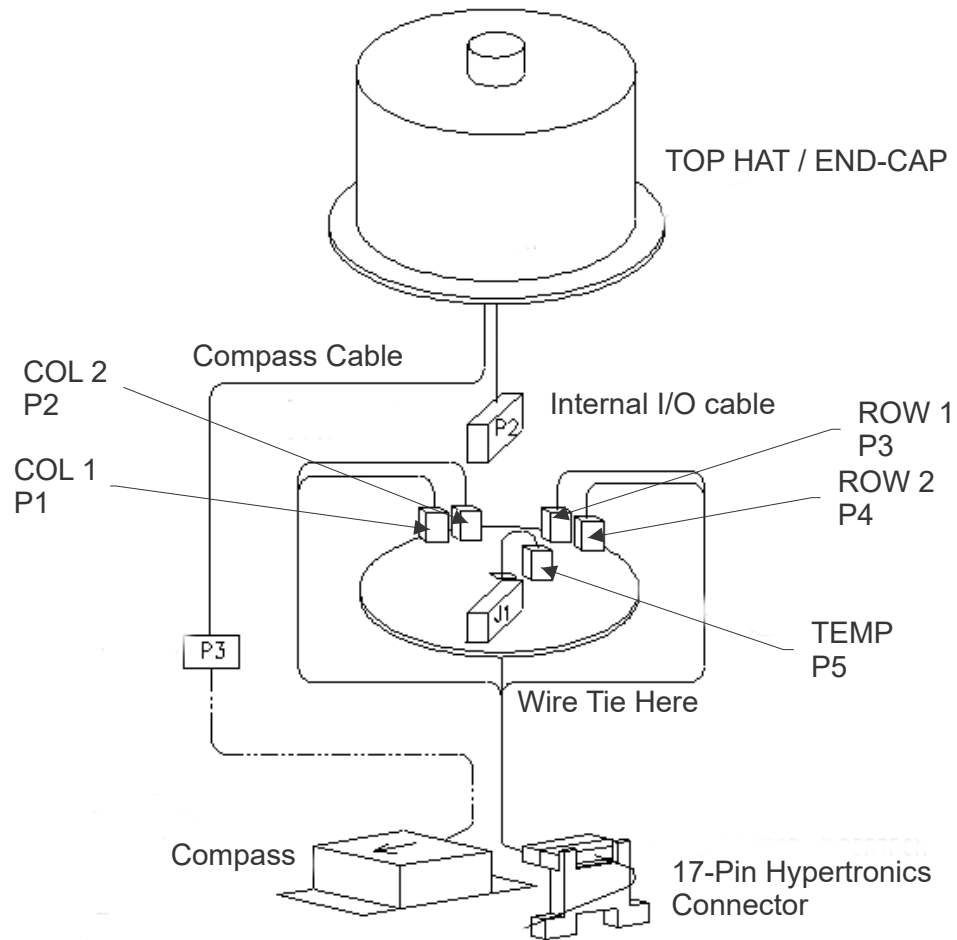

Figure 16. Beamformer Cable Connections
4. Disconnect the P1, P2, P3, and P4 row and column cables and the ground wires (see Figure 16).